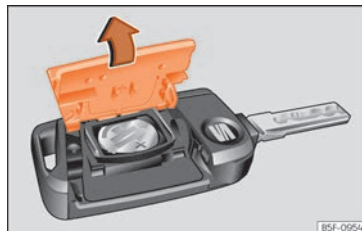

Fig.70 Vehicle key: opening the battery compartment cover.
- Remove the cover from the back of the vehicle key »» Fig. 70 in the direction of the arrow »» ❶.
- Fit the cover as shown »» Fig. 70, pressing it onto the vehicle key casing in the opposite direction to that shown by the arrow until it clicks into place.